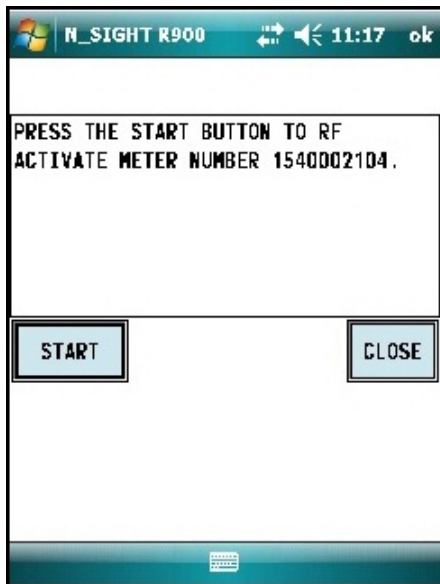

Figure 55 – Start Button
1. Click START to initiate RF-activated data logging. See Figure 55.